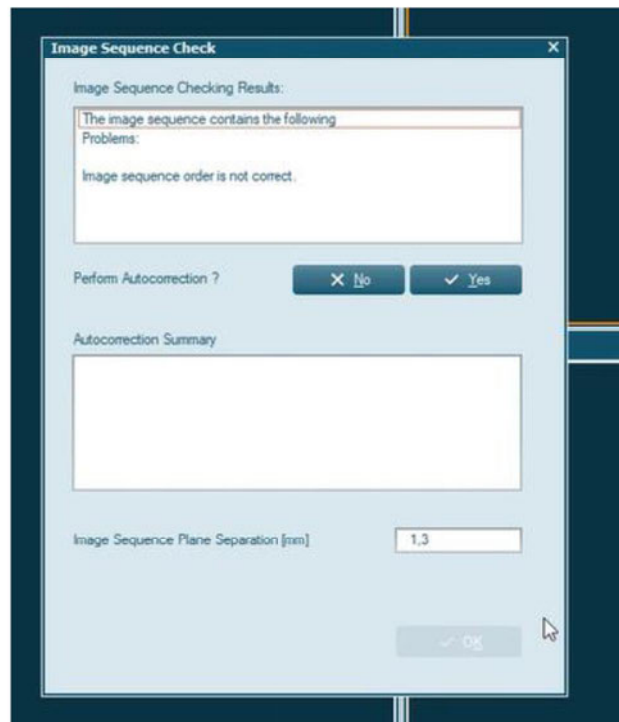

Figure 1 Image sequence check window
In such cases, when users import CT images into HDRPlus 3.x and SagiPlan, an automatic *Image Sequence Check* is performed after loading new images. The results are displayed in the *Image Sequence Check* window (refer to Figure 1).
3. If the *Length Unit* is set to millimeters, user must carefully review and, if necessary, adjust the Image Sequence Plane Separation value during import when working with slice thicknesses that have two decimals, as shown in Figure 1. Users must consider that this approach is not intrinsically safe, therefore solution 1 or 2 is highly recommended.